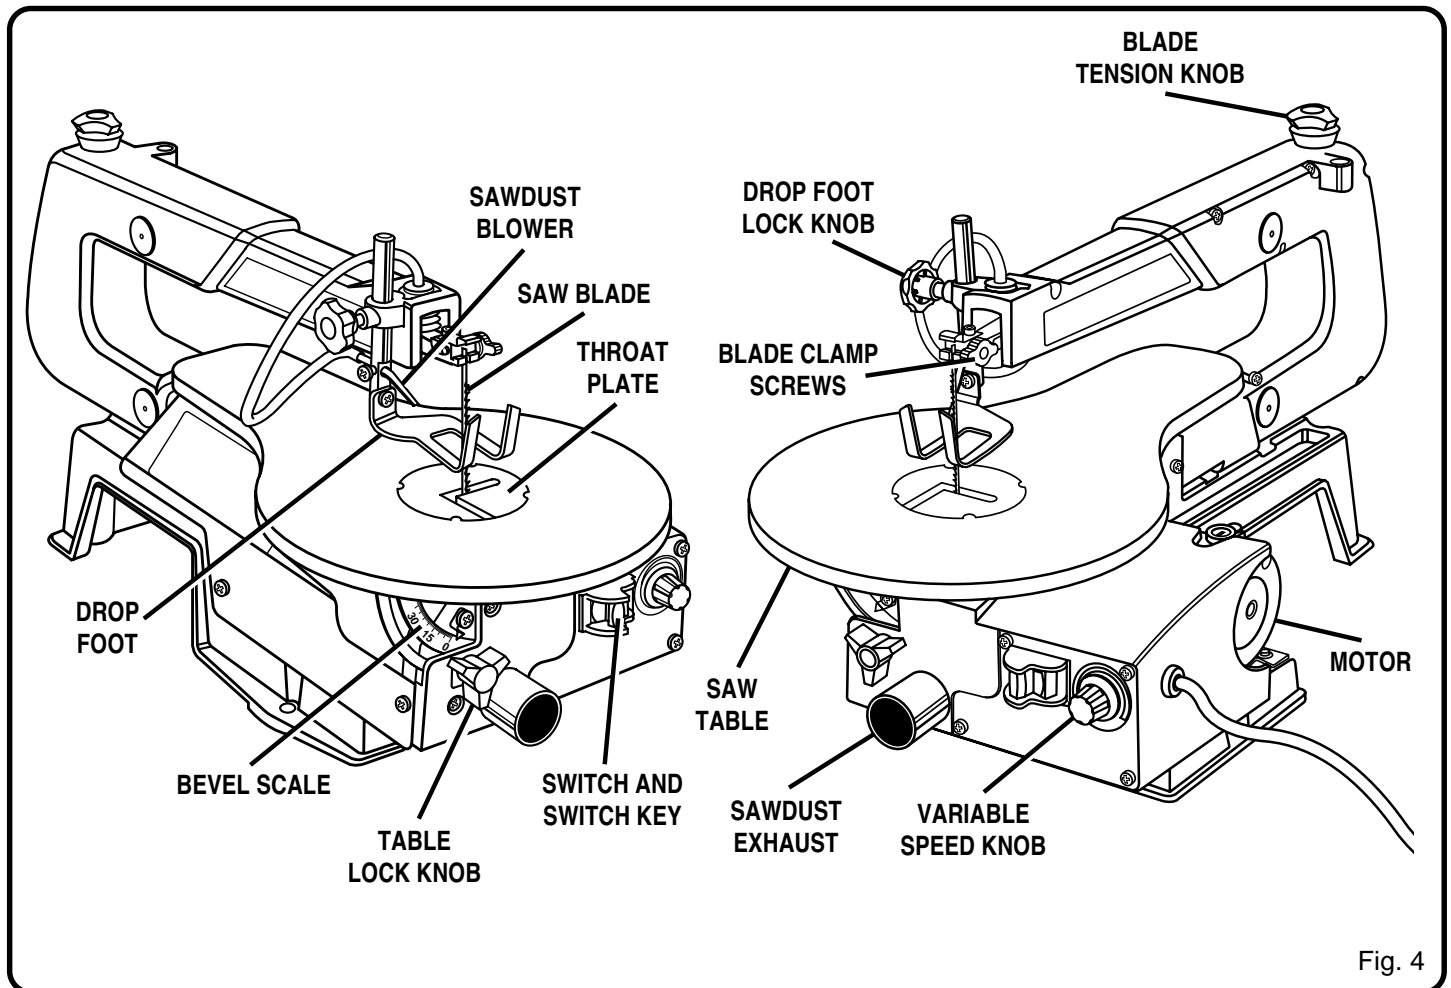

Fig. 4
Before attempting to use your saw, familiarize yourself with all the operating features and safety requirements of your Ryobi scroll saw. See Figure 4.
- Loosen the drop foot lock knob. See Figure 4, page 9.
- Turn blade tension knob counterclockwise to decrease (or loosen) blade tension. See Figure 4.